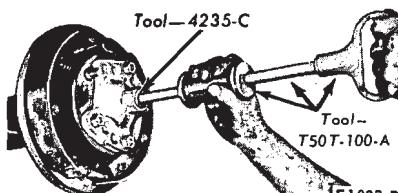

FIG. 4—Removing Axle Shaft
3. Working through the hole provided in each axle shaft flange, remove the nuts that secure the wheel bearing retainer plate. Then pull the axle shaft assembly out of the axle housing (Fig. 4). The brake backing plate must not be dislodged. Install one nut to hold the plate in place after the axle shaft is removed.